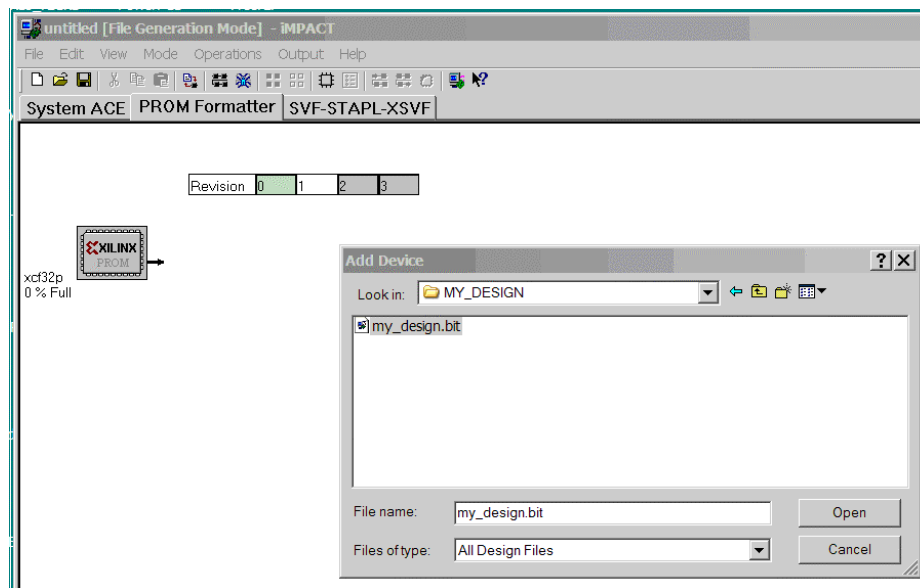

Figure B-6: Adding the Design File to Revision 0
8. Click on Add File and navigate to your design directory and select the .bit file for your design as shown in Figure B-6.